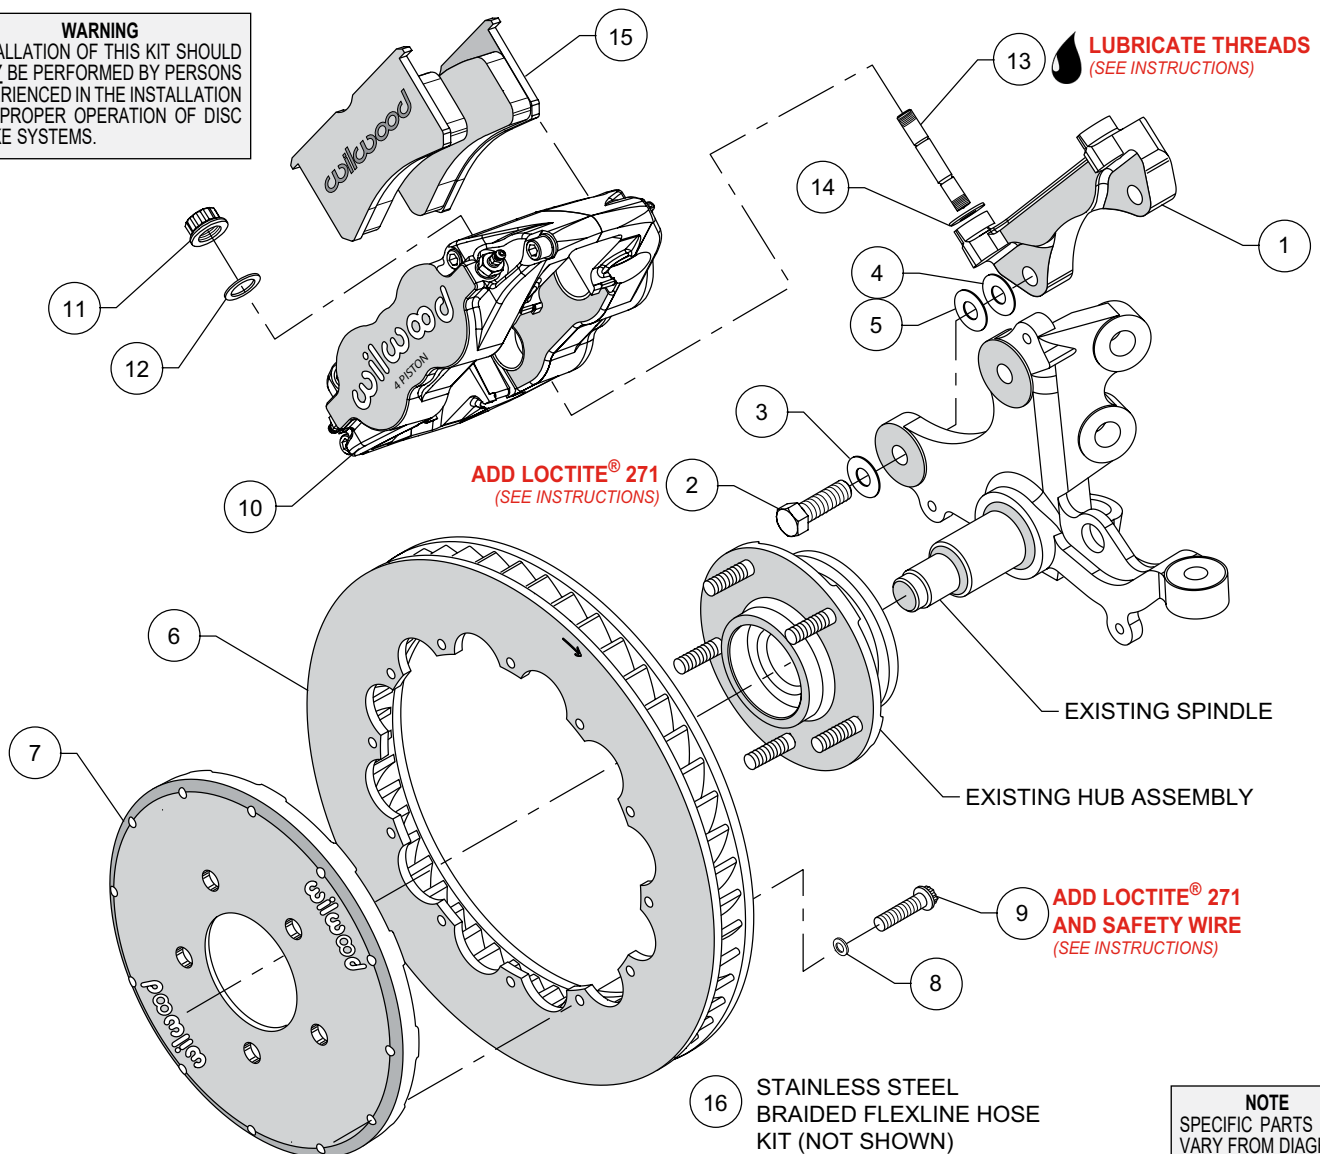
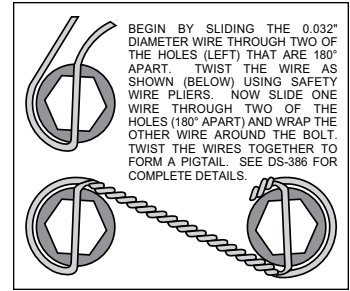

Figure 1. Typical Installation Configuration
Figure 3. Safety Wire Diagram
**NOTE:** Numbers in parenthesis refer to the parts list and Figure 1 on the preceding pages.
- The caliper mount bracket (1) should initially be installed with clean, dry threads on the mounting bolts. Orient the bracket as shown in Figure 1, and install using bolts (2) and washer (3). Initially place one .033 thick shim (4) on each bolt between the bracket and upright, Figure 1. Temporarily tighten the mounting bolts. Later, after the caliper alignment has been checked, the mount bolts will be secured using red *Loctite*® 271.
- Orient the rotor (6) and the hat (7) as shown in Figure 1 and Photo 1. Attach rotor to hat using bolts (9) and washers (8). Apply red *Loctite*® 271 to the bolt threads and torque to 155 in-lb using a criss-cross pattern. Safety wire the bolts using standard 0.032 inch diameter stainless steel safety wire as shown in Figure 3. Refer to Wilwood's data sheet DS-386 (available at [www.wilwood.com/Pdf/DataSheets/ds386.pdf](http://www.wilwood.com/Pdf/DataSheets/ds386.pdf)) for complete safety wire installation instructions.
- NOTE:** This kit contains distinct right and left hand calipers that must be mounted in a specific direction, as described below. Lubricate the caliper mounting studs (13) with lightweight oil. Initially place one .035" thick shim (14) on each stud as shown in Figure 1 and Photo 2. Mount the caliper (10) onto the bracket (1) using lock nuts (11) and washers (12), Figure 1. Ensure that the caliper is mounted so that the largest pistons are at the rotor exit end of the caliper, in relation to the direction of rotor rotation. Temporarily tighten the lock nuts and view the rotor through the top opening of the caliper. The rotor should be centered in the caliper, Photo 3. If not, adjust by adding or subtracting shims (4 and/or 5) between the bracket and the upright. Always use the same amount of shims on each of the two mounting bolts. Once the caliper alignment is correct, remove the bracket mounting bolts one at a time, apply red *Loctite*® 271 to the threads, and torque to 60 ft-lbs.
- Remove the caliper center bridge pad retainer bolt, nut, and tube from the caliper. Insert the brake pads (15) into the caliper, with